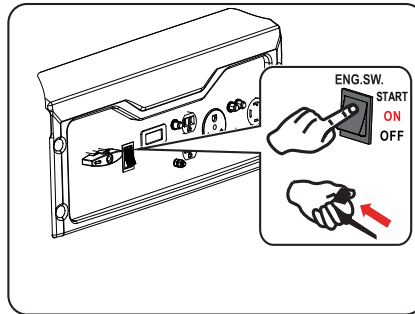

Fig 12 Recoil Start
- For manual start, turn the engine START/ON/OFF switch to the “ON” position. Pull the recoil handle (starter cord) slowly until resistance is felt, then pull rapidly. (See fig 12)